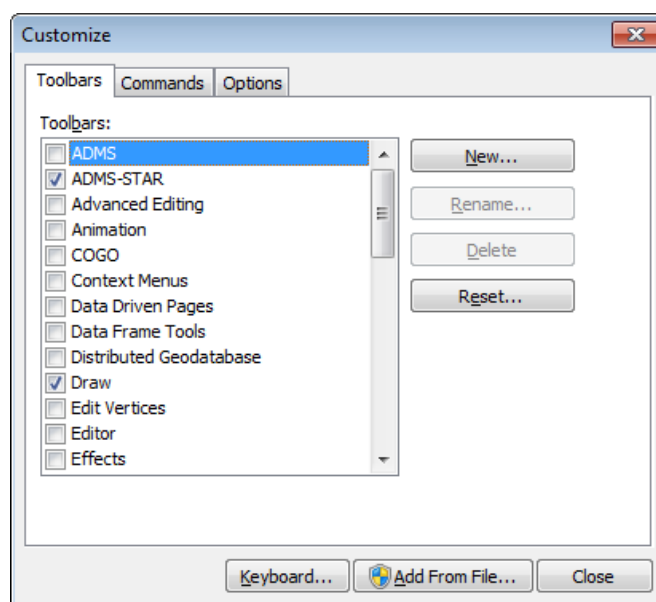

Figure A.1 - The **Customize** toolbar dialogue box.
- (a) select **Customize...** at the bottom of the list. A dialogue box is displayed, as shown in **Figure A.1**.